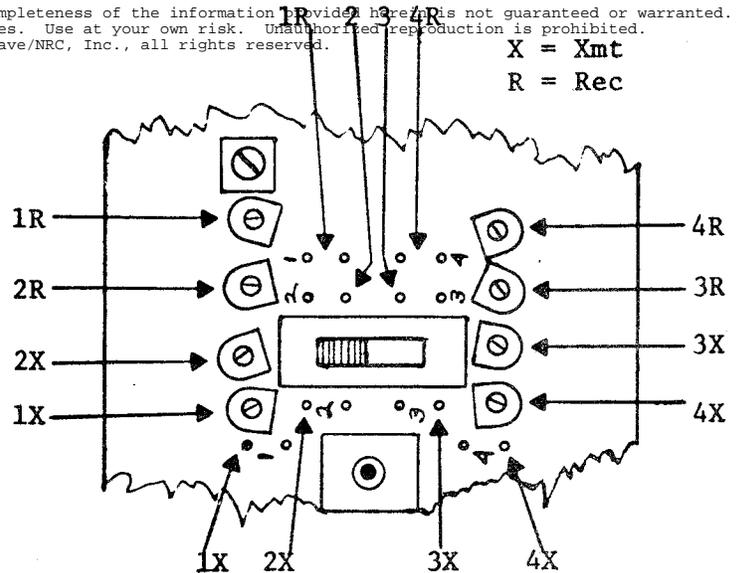

Figure 4-3. Crystal & Trimmer Locations
- Couple frequency counter to first LO coil L111 with a "pick-up" loop. Turn unit ON, and adjust each receive crystal to its proper frequency with the appropriate crystal netting trimmer. Figure 4-3.
1. Refer to Figure 4-3 for crystal and netting capacitor locations.
2. Locate mounting position for the new crystal(s). "Receive" crystals are mounted on PC board just above the channel-selector switch, whereas the "transmit" crystals are mounted just below channel switch. The channel number of each crystal position is etched on unit PC board, and agrees with selector switch positions. Refer to Figure 4-3 for transmit and receive crystal locations.